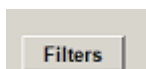
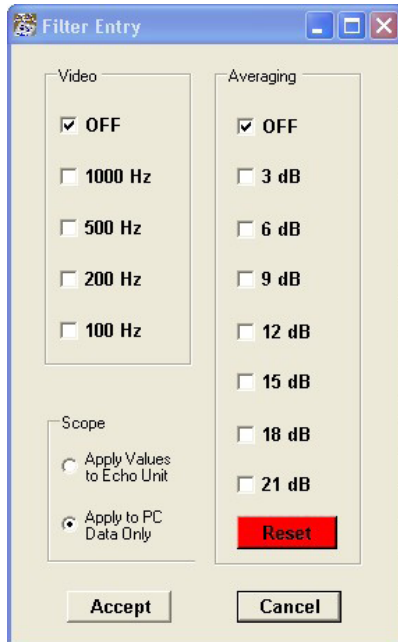

Figure 7-11
Figure 7-12
**Filters** button, figure 7-11, opens the Filters menu shown in figure 7-12. The Filters button will turn green indicating one or more filters has been selected. When a stored plot is presented either from Archived Plots or from the VIA Echo’s memory, and filters were on at the time of testing the Filters button will turn green and opening the filters menu will display the filters that were on.